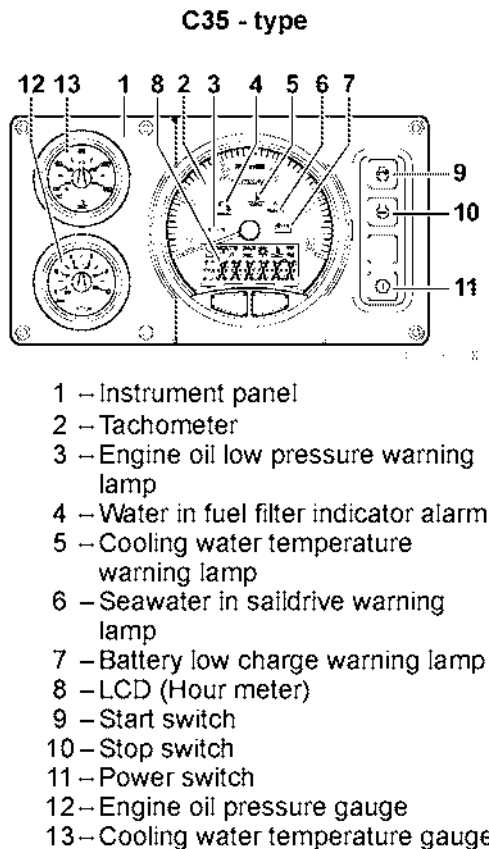

Figure 12
Turn the battery switch on. Turn the key (6, Figure 8) or power switch (11, Figure 10, Figure 11, Figure 12) to the ON position and check the lamps on the panel (1, Figure 8, Figure 10, Figure 11, Figure 12) with the engine off:
1. The lubricating oil warning lamp should be illuminated. (4, Figure 8) (3, Figure 10, Figure 11, Figure 12)
2. The cooling water temperature warning lamp should be out. (3, Figure 8) (5, Figure 10, Figure 11, Figure 12)
3. The charge warning lamp should be illuminated. (5, Figure 8) (7, Figure 10, Figure 11, Figure 12)
4. The rubber seal warning lamp should be out. (2, Figure 8) (6, Figure 10, Figure 11, Figure 12)